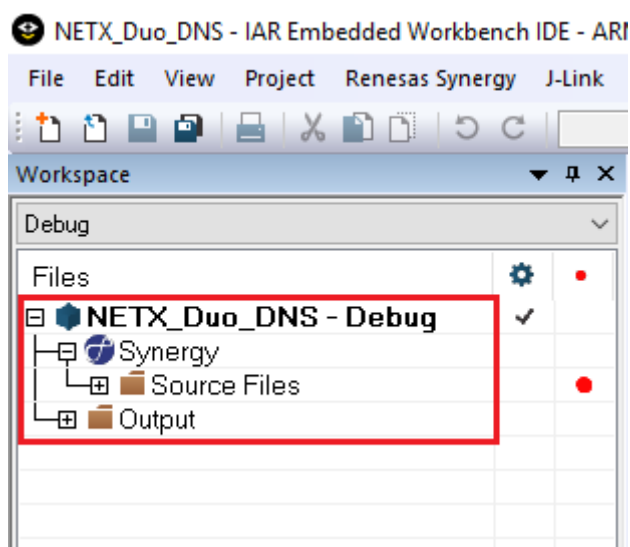

Figure 1.2 Project loaded in IAR EW for Synergy
5. After opening the project, you should see the project structure (Figure 1.2) in the IAR EW for Synergy ISDE.